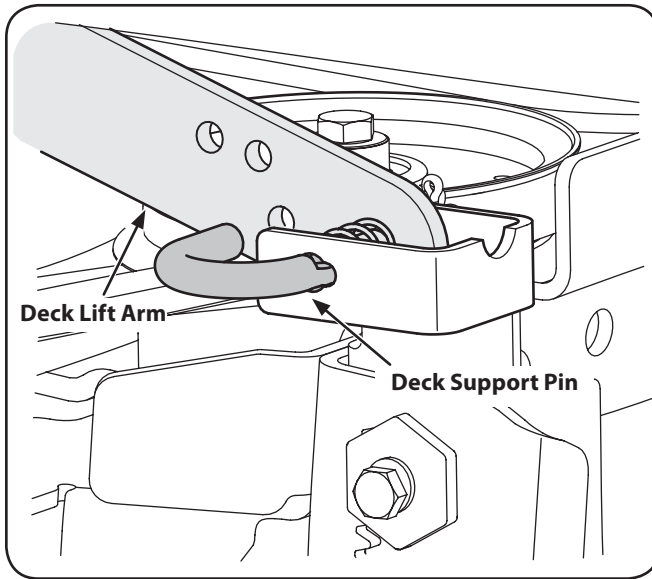

Figure 7-3
6. Pull the deck support pin outward to release the deck from the deck lift arm. See Figure 7-3.